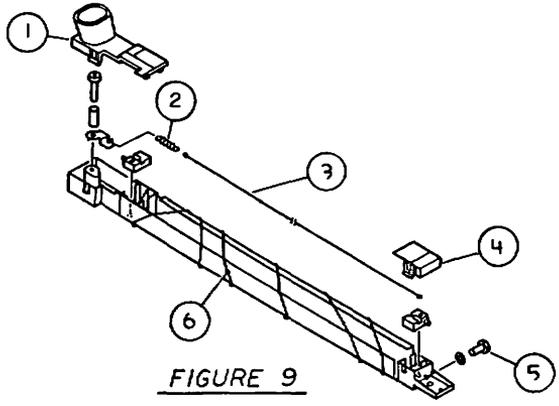

FIGURE 9
**LASERWRITER - TRANSFER CORONA ASSEMBLY, P/N 970-1021 (Figure 9)**